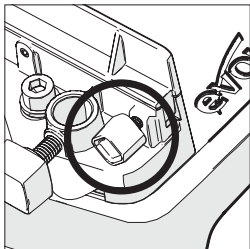

Fig. 5
- Loosen the thumbscrew (Fig.5).